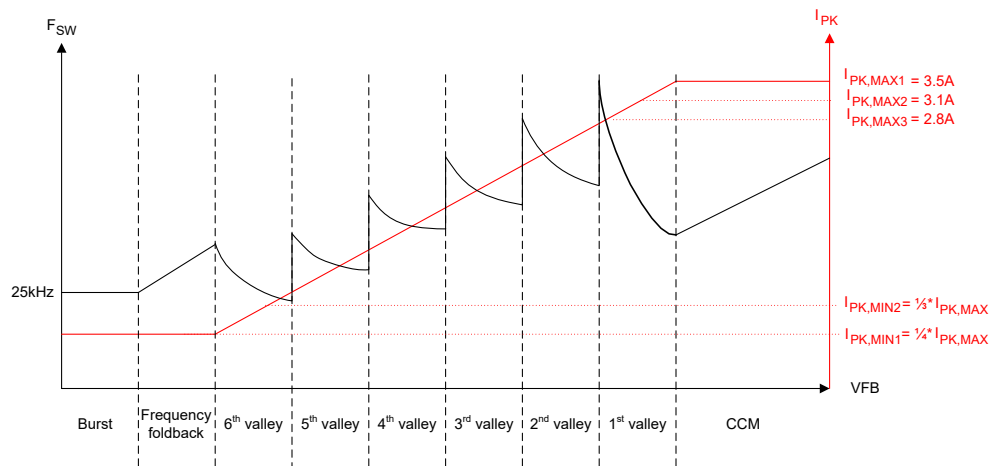
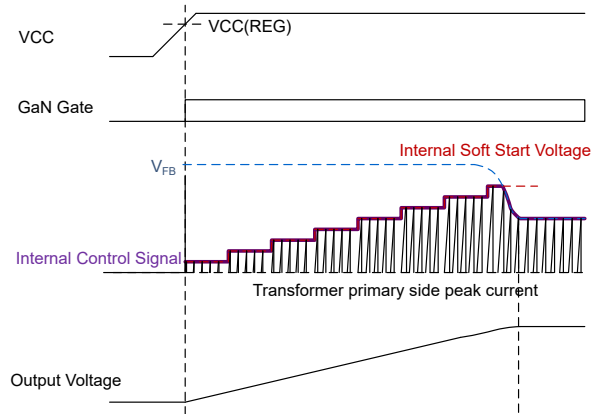

Figure 7-4. UCG2883x/4x Control Law
Figure 7-9. Soft Start Sequence
Connect the feedback (FB) pin to the collector of the optocoupler for output regulation. This pin has an internal 60kΩ pull up resistor for optocoupler bias. The instantaneous voltage on this pin determines the switching frequency, peak current and mode of operation (burst, foldback, valley switching or CCM) as per the control law in Figure 7-4 to deliver the required output power. Connect a 100pF or 220pF capacitor from this pin to ground for high frequency noise filtering.
Hence, in UCG2883x/4x, in every switching cycle, the primary GaN HEMT turns off after reaching the peak current threshold and turns on next at a target valley in magnetizing ring during discontinuous mode (DCM) operation. The instantaneous primary peak current and target valley is determined by the feedback (FB) pin voltage as per the control law of Figure 7-4. Connect the FB pin to the optocoupler collector. The negative feedback loop sets FB pin voltage to the required value to support a certain V_{OUT} and P_{OUT} on the output. The device can operate in one of the four modes of operation: burst, frequency foldback, valley switching or continuous conduction mode, as described later.
In the control law shown in Figure 7-4, the UCG2883x/4x offers flexibility to select a max peak current $I_{PK,MAX}$ to optimize for the switching frequency at rated load and transformer size. For each $I_{PK,MAX}$ setting, a scaling ratio of 1/3rd or 1/4th is available for the minimum peak current $I_{PK,MIN}$. This $I_{PK,MIN}$ value determines the switching frequency and losses in light load conditions when the flyback converter is operating in frequency foldback or burst modes. For all values of $I_{PK,MAX}$ and $I_{PK,MIN}$, the slope of control law peak current vs feedback voltage remains the same, as per Equation 1. Table 7-5 shows the threshold voltages for transition between different modes and between valleys for different peak current settings of Table 7-2.
The UCG2883x/4x is designed to operate with soft switching and primary FET turn-on at a valley to reduce switching losses. The converter operates in valley switching except during peak load transients during which control can transition to CCM mode (if enabled using CFX pin). During valley switching mode, the target valley and peak current threshold are governed by the control law of Figure 7-4 and Equation 1:
As shown in Figure 7-4, once the boundary of 1st valley QR operation is reached with increasing output power, the control clamps I_{PK} to the maximum selected value $I_{PK,MAX}$, and begins to reduce the secondary conduction time T_{OFF} in CCM mode. This reduction in T_{OFF} is proportional to increase in FB pin voltage, until 30% of the QR mode off-time to reach maximum 1.7 $\times$ the QR mode output power delivery capability. Use a primary side magnetizing inductance L_M large enough to not hit the frequency clamp during CCM mode and avoid any subharmonic oscillations which can increase output voltage ripple, depending on application requirements. In CCM mode, the clamping frequency for the switching frequency clamp is doubled to maximize the peak power capability. For long duration output power transients, the converter returns to 1st valley QR mode after expiry of the 10ms CCM timer for 4 switching cycles of QR mode operation and resumes CCM operation. This operation repeats every 10ms, until the power becomes lower so that the CCM operation is no longer needed. The device offers flexibility to enable or disable CCM mode operation with a resistor from the CFX pin to GND as per values in Table 7-4.
When turned on, a flyback converter starts with 0V output voltage. The low voltage can cause the feedback voltage FB to clamp to the maximum value and trigger overload protections. To prevent the clamping from happening, the UCG2883x/4x starts in soft start mode. As Figure 7-9 shows, during this time, an internal FB voltage ramp increases in eight steps from 0V to the maximum value in 4ms. The maximum value of internal FB ramp is equivalent of 80% of the $I_{PK,MAX}$ setting and changes for different resistor settings on the IPS pin. During soft start, the smaller of this internal ramp voltage and actual FB pin voltage is used to determine the device operating point in the control law of Figure 7-4. Once the internal FB ramp voltage reaches the maximum value at the end of 4ms is when control is transferred to FB pin voltage for output regulation. Soft start sequence is executed every time at start up or when recovering from fault (auto-retry or latch) and brown-out conditions. The minimum frequency clamp is changed to 10kHz only during soft start (which is otherwise at 25kHz during normal operation). The 10kHz minimum frequency clamp helps at start-up when valleys are missing and the control law forces turn-on of primary GaN HEMT every 100μs from the last turn-on edge (if valleys are missing), to charge the output capacitor.